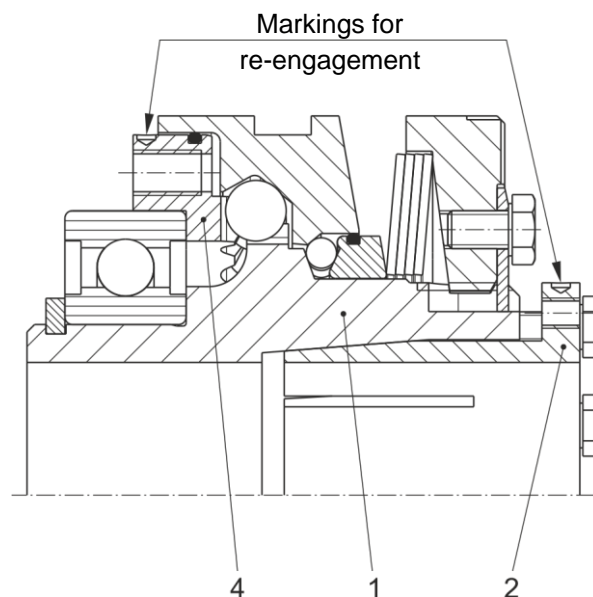

Fig. 6
- ❑ On overload-synchronous designs (Type 4190._ _3_ _ or 4196._ _3_ _) with cone bushing (2) the cone bushing is mounted in delivery condition in such a way that its marking bore and the marking bore in the pressure flange (4) align (see Fig. 6). This represents the synchronous re-engagement position of the clutch.
Re-engagement can only take place at the synchronous position for the overload-synchronous designs (Type 419_._ _ 3_ _). The marking bores on the outer diameters of the pressure flange (4) and the cone bushing (2) must align (Fig. 6).